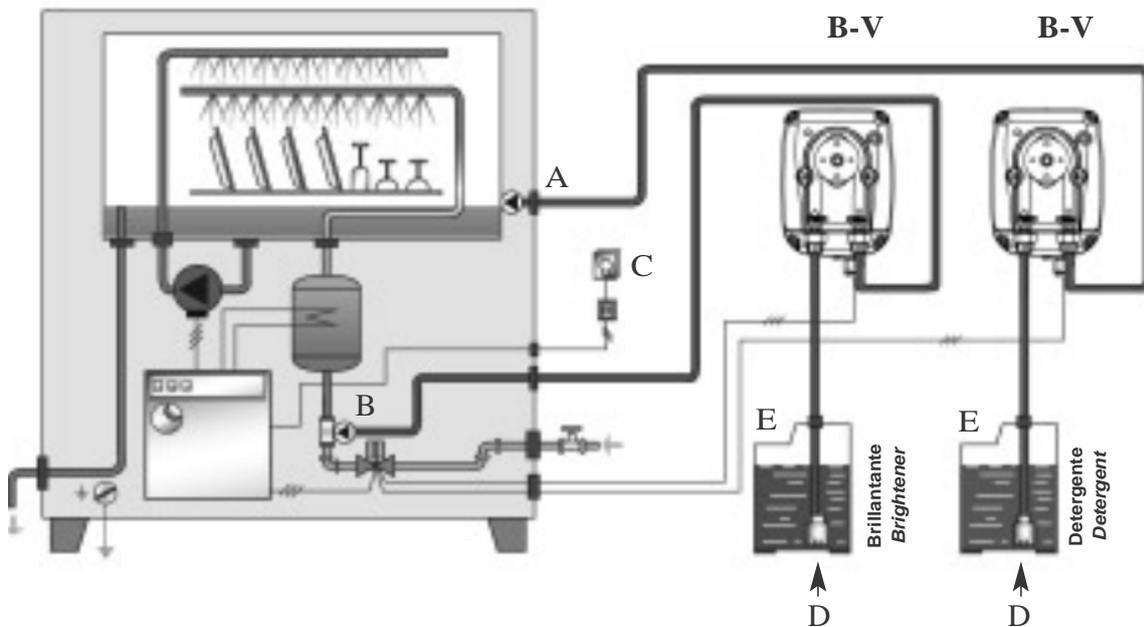

Fig. 8
- f. - Apply the 90° injection fitting (A) to the basin of the machine a higher water level after having made a 12 mm hole.
3.1 - TYPICAL INSTALLATION B-V Fig. 8